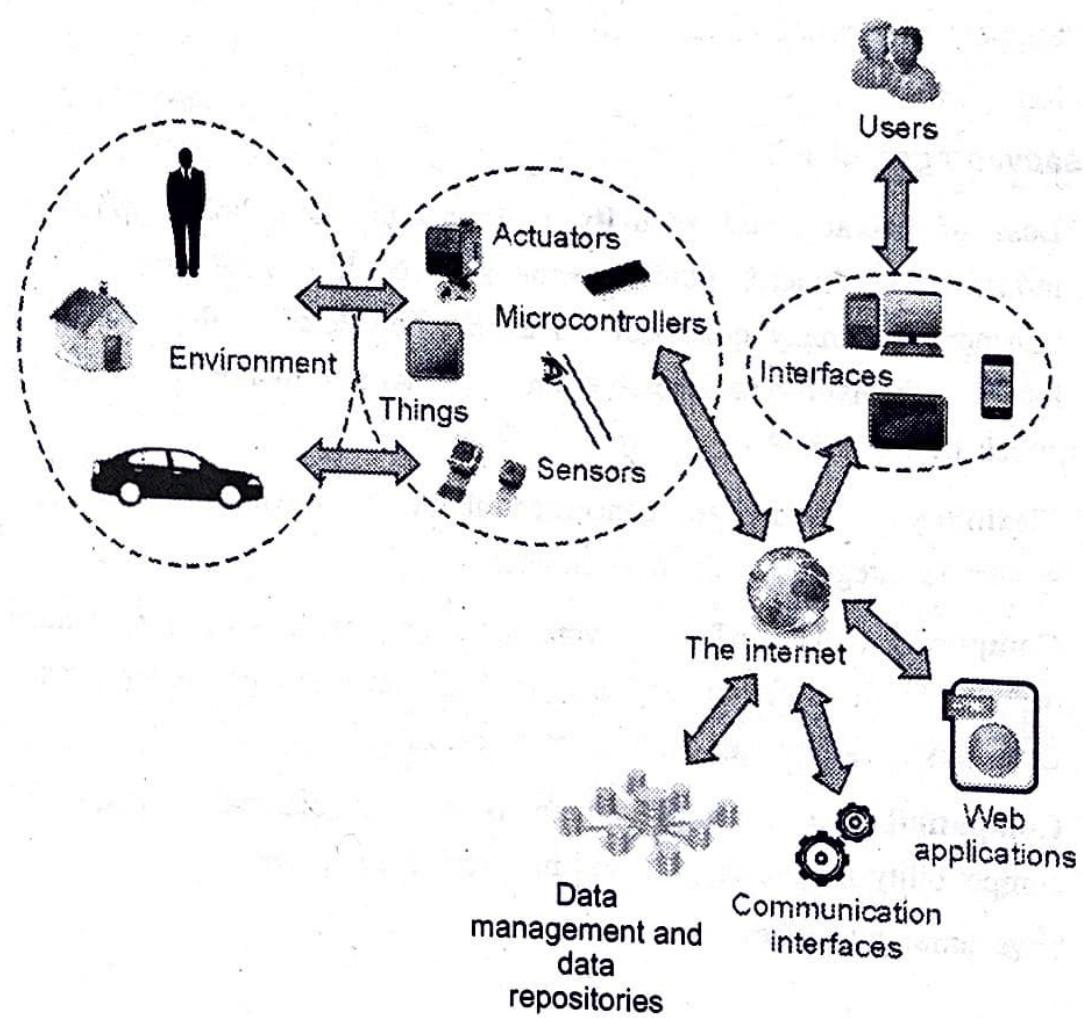

Fig. Q.3.1 Working of IoT
- Fig. Q.3.1 shows working of IoT.